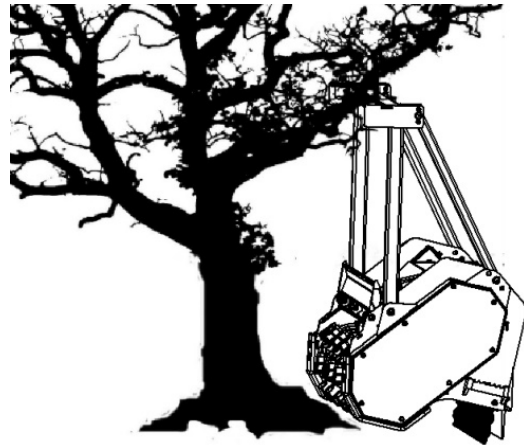

Figure 7
- Position the mulching head so it is tilted back enough to expose the drum's cutting teeth to the tree before the push bar makes contact [Figure 7].